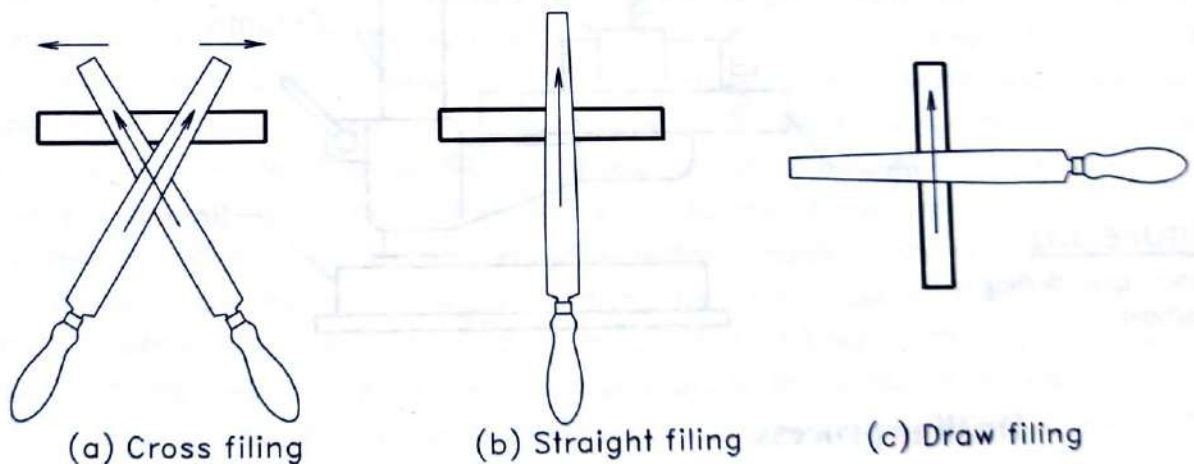

FIGURE 3.31
1. **Cross filing:** In this filing the file strokes are made in diagonal form from right to left and then from left to right as shown in Figure 3.31(a). This is the most common type of filing and is used for medium and heavy cuts.
2. **Straight filing:** In this filing the file is pressed and moved forward approximately right angles to the length of the work as shown in Figure 3.31(b). On back stroke the file is lifted. This type of filing is suitable to the narrow pieces of work.
3. **Draw filing:** In this filing both the hands are kept on the two ends of the file blade and the blade is kept at right angles to the length of the work. The forward and backward strokes of the file will smoothen the surface produced by cross or straight filing [Figure 3.31(c)].